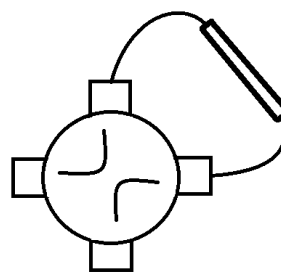

Figure 3. Cadmium column online
7. Turn on cadmium column (figure 3), turn on pump, let run 5 minutes, turn off pump.